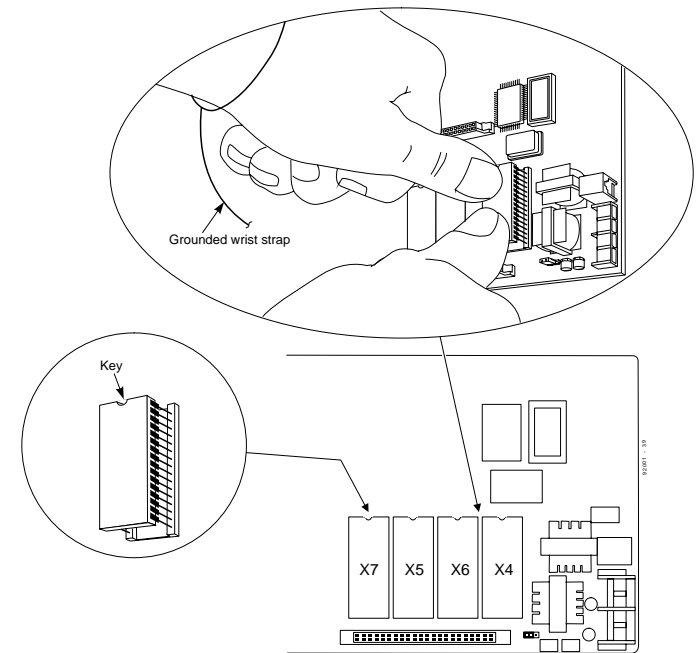

Figure 2-9 CPRU EPROM INSTALLATION
6. Following Figure 2-9, carefully install the new EPROMs.